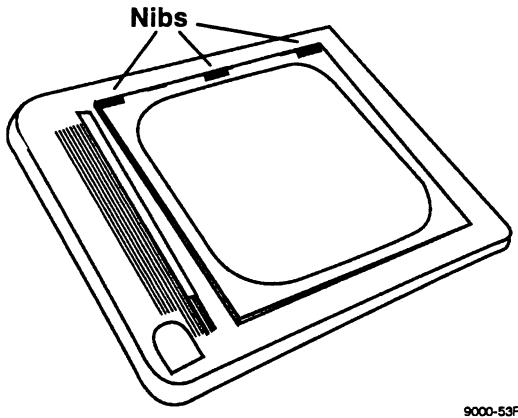

Figure 5-14. Replacing Stage Glass
4. When replacing the stage glass, make sure the beveled edges are under the plastic nibs on the top side of the top cover. Figure 5-14.